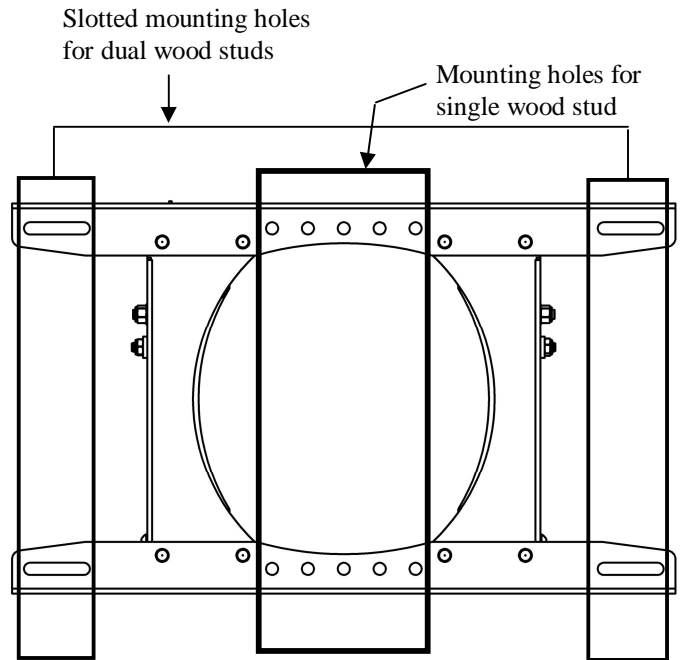

Figure 4. Mounting Holes
4. Holding the MTR against the wall, select the mounting holes that best suits your situation (see Figure 4).
1. Place MTR against the wall. Align the mount with the pilot holes drilled in the preceding procedure (see Figure 4).